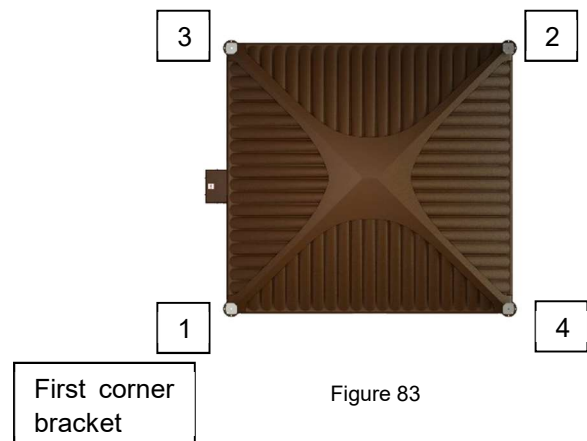

Figure 83
- 4) Repeat step 3 for each remaining corner bracket, follow the order of installation as shown in Figure 83, 1 to 4.
- 6) Repeat step 5 for the remaining brackets. Follow the same assembly pattern as shown in Figure 83 and Figure 85.